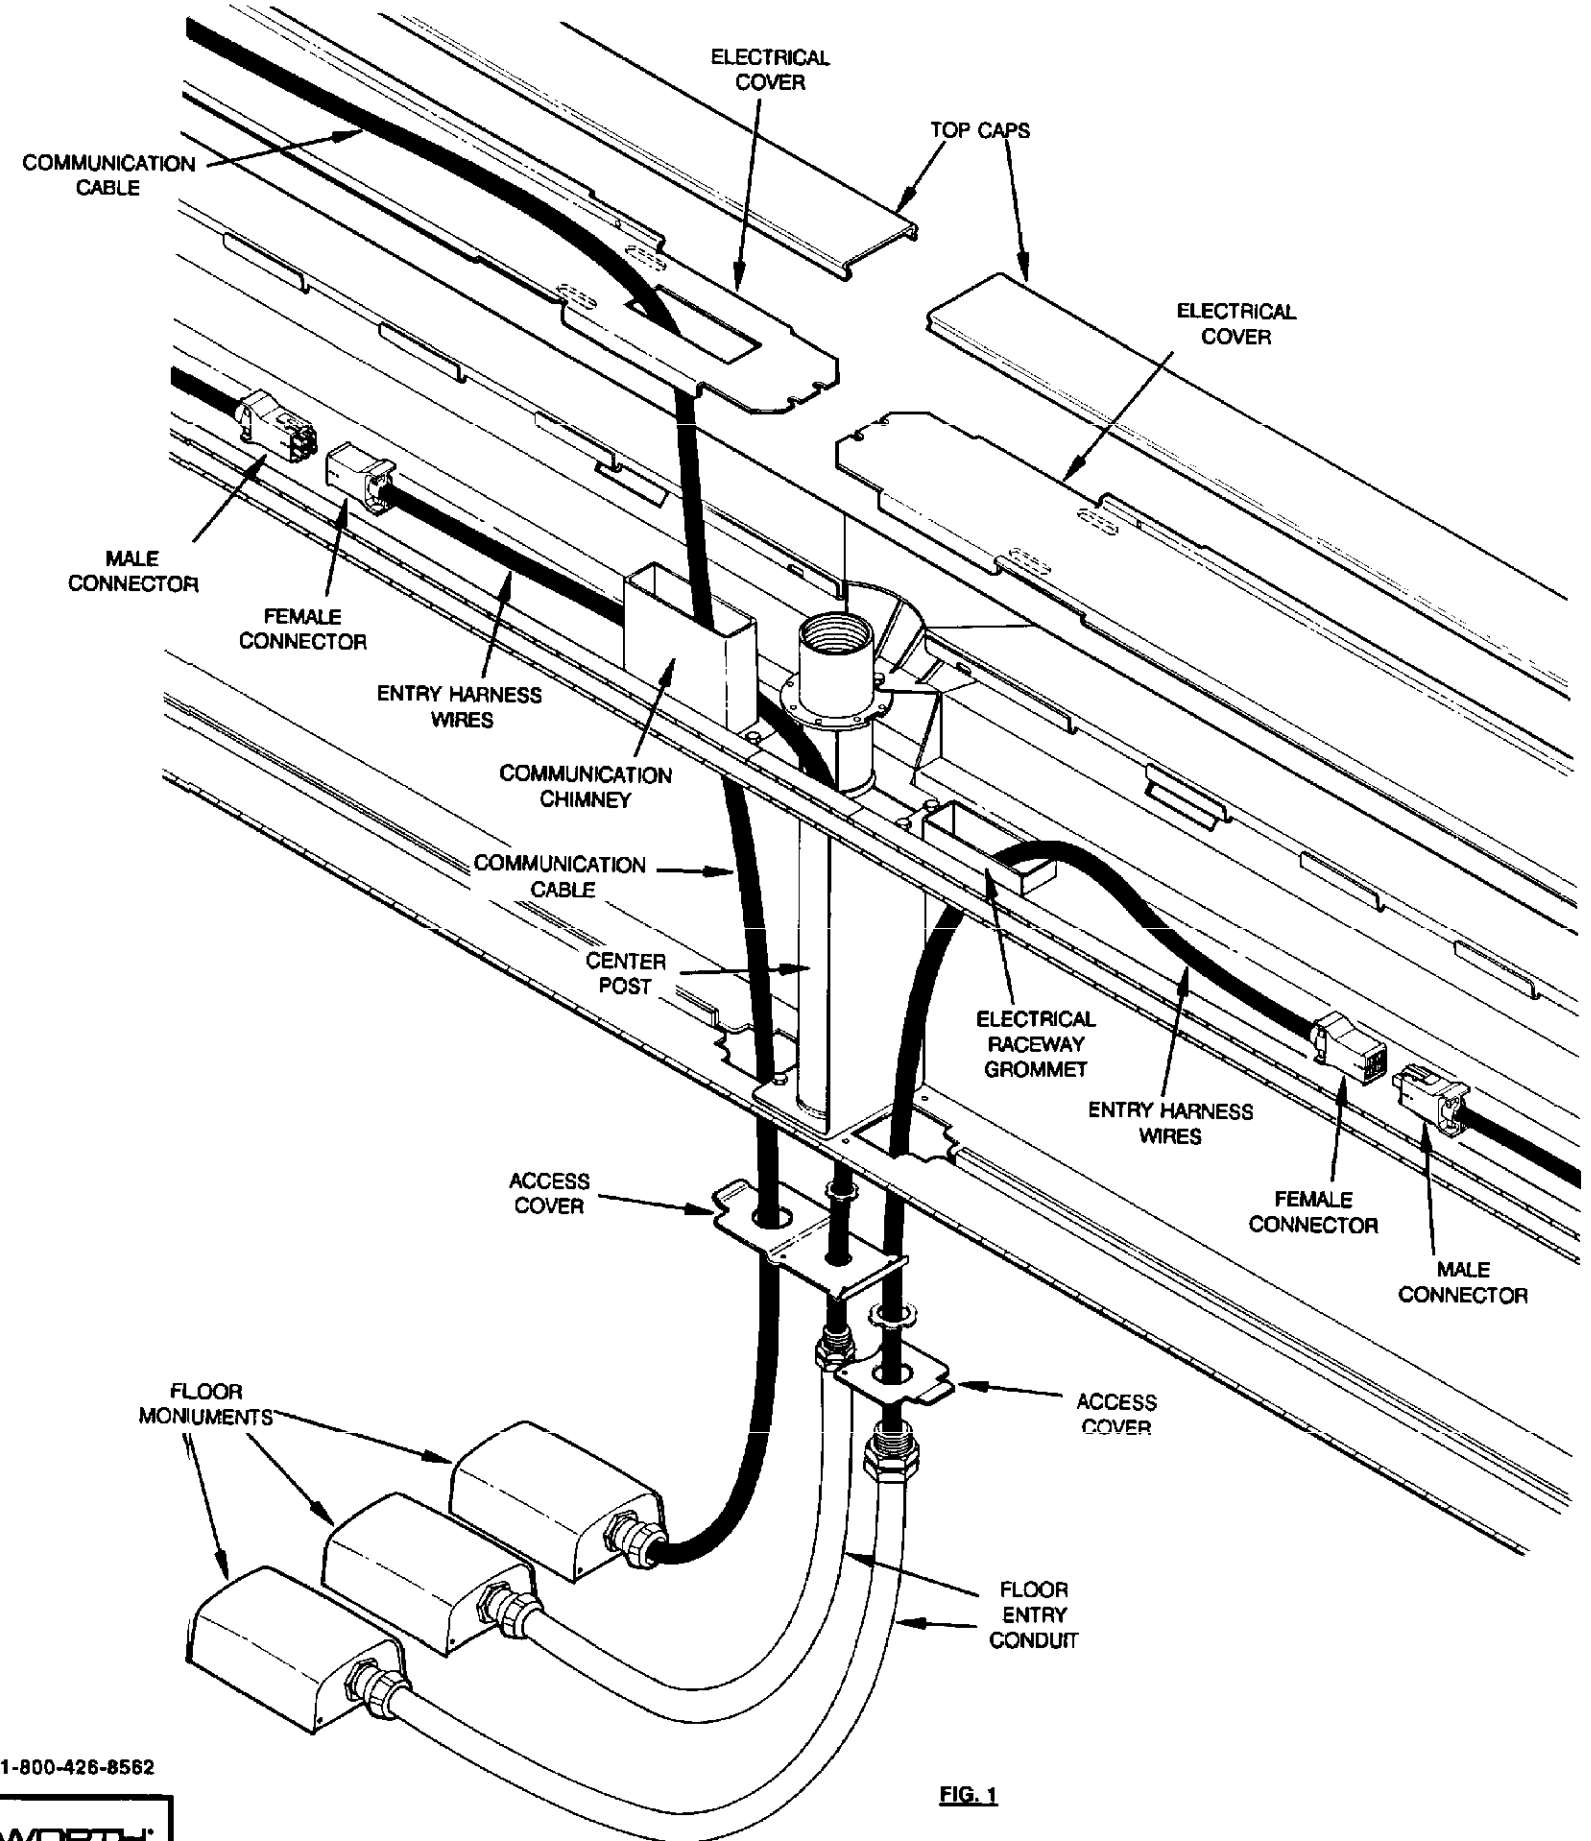

FIG. 1
1. Remove top caps and electrical covers from raceway. Remove bottom access covers from bottom of beam (Fig. 1).
2. Remove the required knockout from bottom access plate and fasten the floor entry conduit to bottom access cover. Connect other end of conduit to appropriate floor box cover or monument (Fig. 1).
3. Place Entry Harness into the raceway and pass the Entry Harness wires through the electrical raceway grommet or center post, down through the beam and through the conduit, to the respective monument or floor box (Fig. 1).